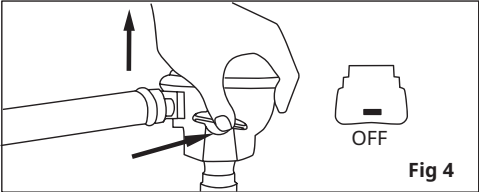

Fig 4
- the "Compact Quick-on" regulator handle (2) is in the "off" position. Then, dismount the "Compact Quick-on" by pressing horizontally on the handle (2) and pulling upwards at the same time.(Fig 4). Do not move the cylinder during operation.